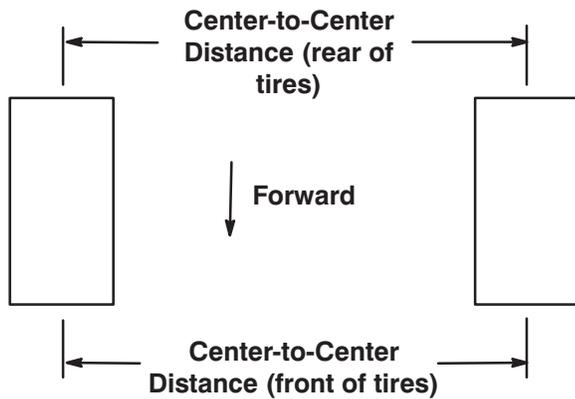

Figure 36
2. Measure the distance between both of the front tires at axle height (at the front and rear of the wheels) (Fig. 36). The front measurement must be equal to the rear measurement $\pm 1/4$ in. (6.4 mm).